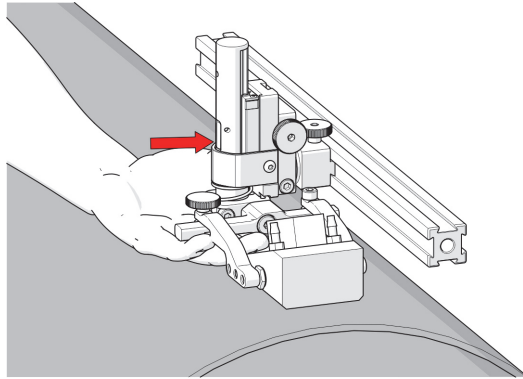
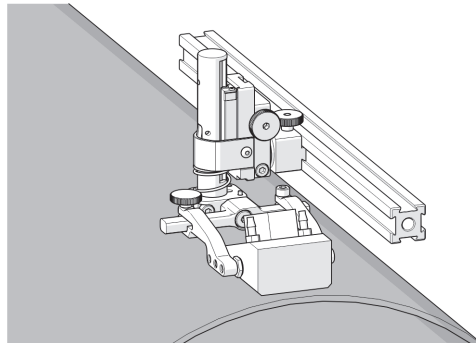

Figure 2-58 Press latch button
Figure 2-59 Lower toward scan surface
3. Lift the yoke slightly and press the latch button (see Figure 2-58 on page 96), then slowly lower it toward scanning surface to apply spring pressure to the wedge (see Figure 2-59 on page 96).